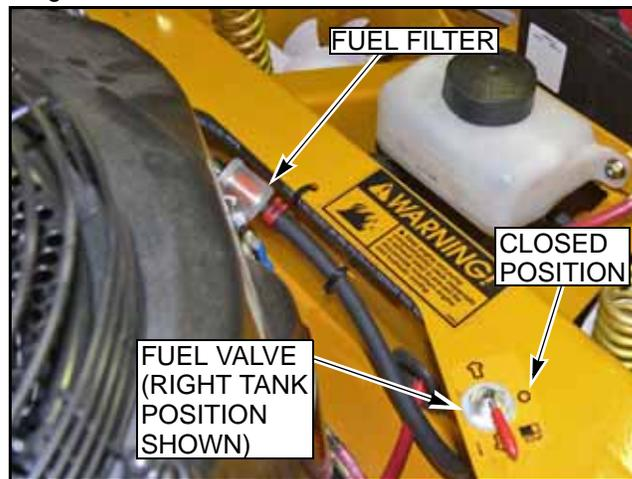

FIG. 47
The fuel shut-off valve (Hustler p/n 745059) is located behind the seat to the right side of the operator (FIG. 47). Close this valve (center position) to prevent fuel flow to the engine. The valve's two other positions are front and rear.
2. Turn the fuel valve to the closed position (middle position) (FIG. 47).